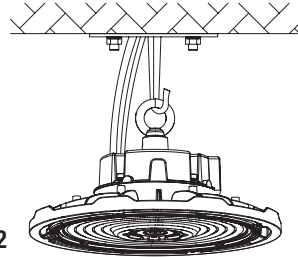
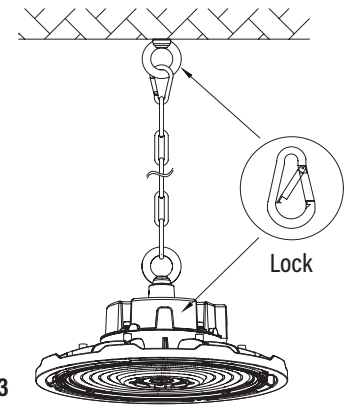

FIG. 2
FIG. 3
- Hang the fixture from the ceiling hook (Fig. 2) or chain (Fig. 3), provided by installer.